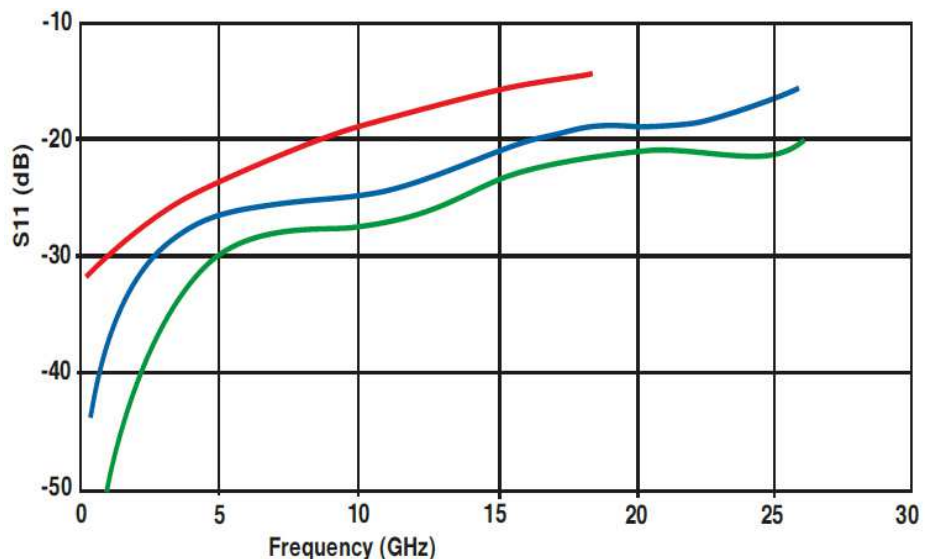
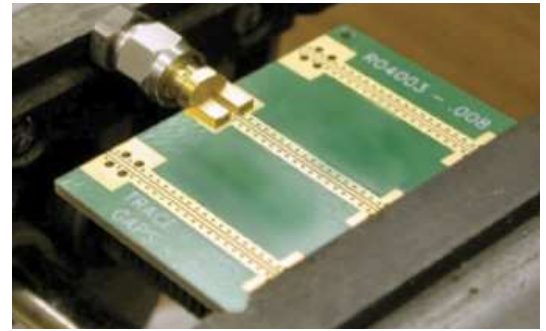

Figure 2
Figure 3
2. Position connector on the circuit board, making sure the contact pin is aligned with the center of the signal trace as shown in Figure 2. Make sure that the connector legs and contact pin are held flush against the top of the circuit board, keeping the axis of the connector parallel to the plane of the circuit board, as shown in Figure 3.